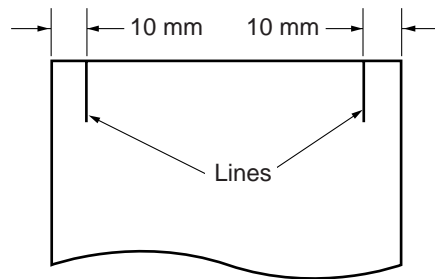

Figure 10-209
- 1) Mark a line 10 mm from each edge of a piece of copy paper (B4), as shown in Figure 10-209.